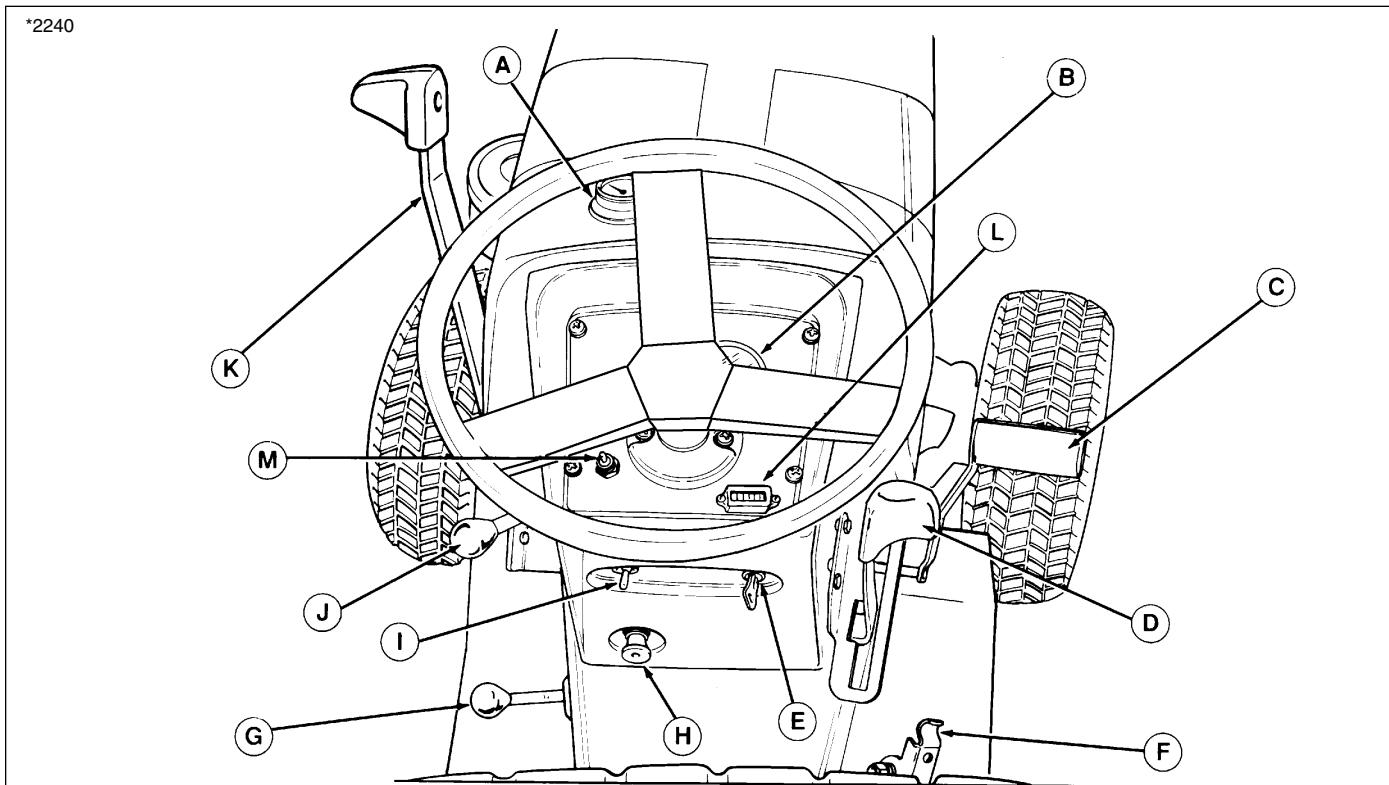

Figure 2. Tractor Controls
2. To apply the parking brake pull up on the parking brake lever (F, figure 2).
Refer to figure 2.